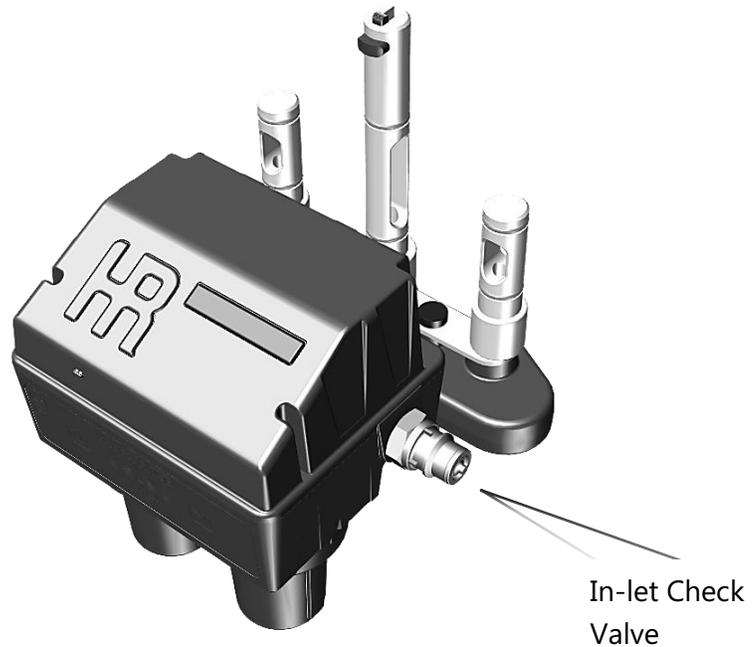

**FIG.32**
**Tip:** After every usage, remember to back off the "CUP HOUSINGS" as illustrated **FIG.32**. This will reduce the force required to remove the cups on next use.